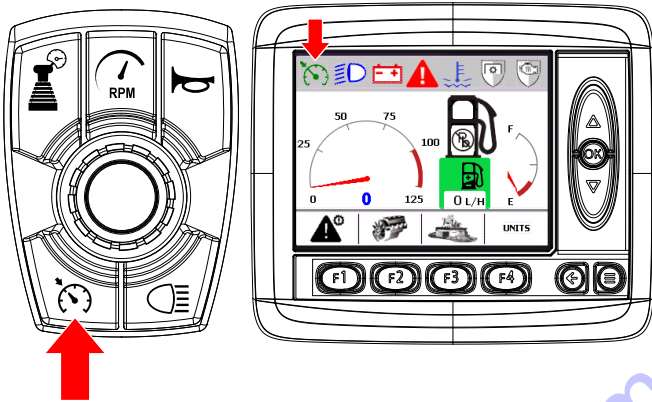

Figure 46. Cruise Control
3. Press the **cruise control button** (Figure 46). The cruise control icon on the digital display will turn green to indicate cruise control is engaged.